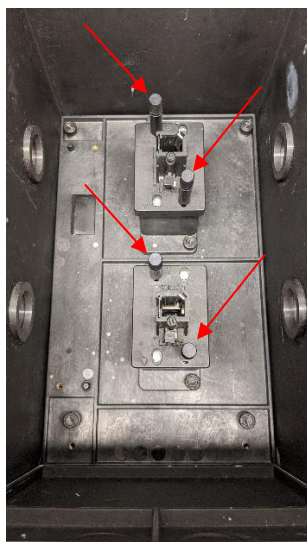

Figure 5: Cuvette alignment knobs.
- Adjust the cuvette's position using the adjustment knobs shown in Figure 5.